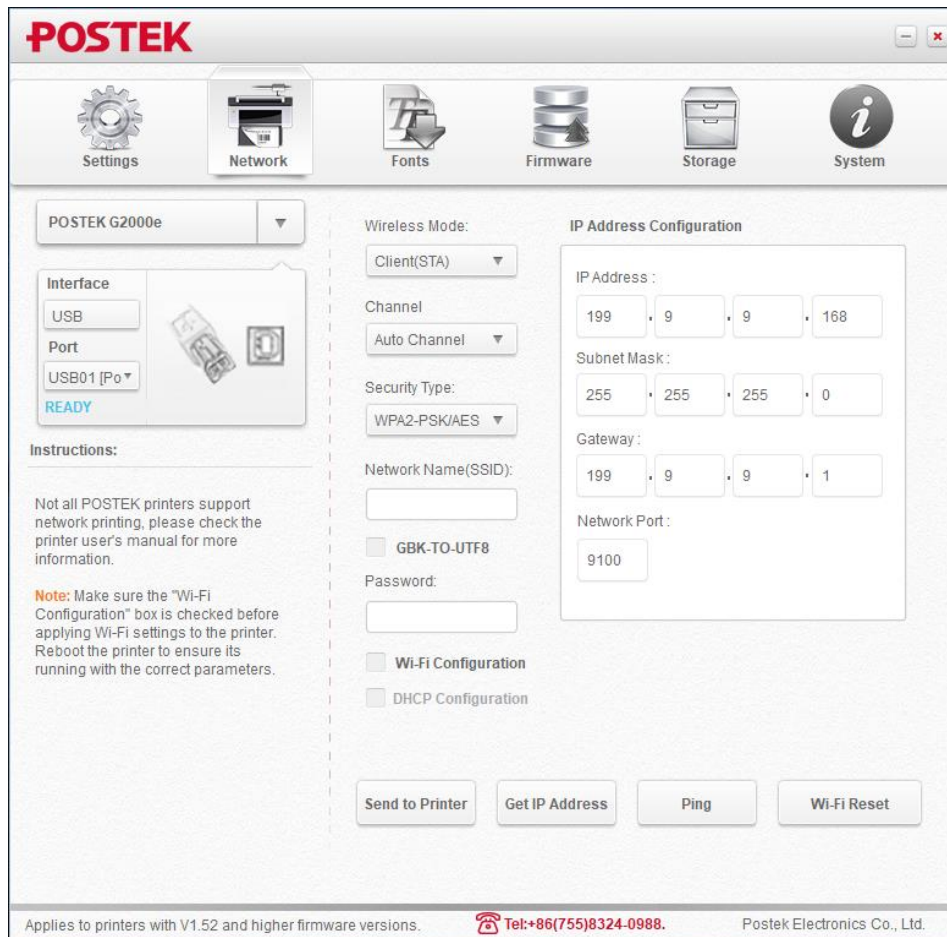

Figure 2-23 Open the Utility
4. Open the Utility software and click “Network”, as shown in Figure 2-23.